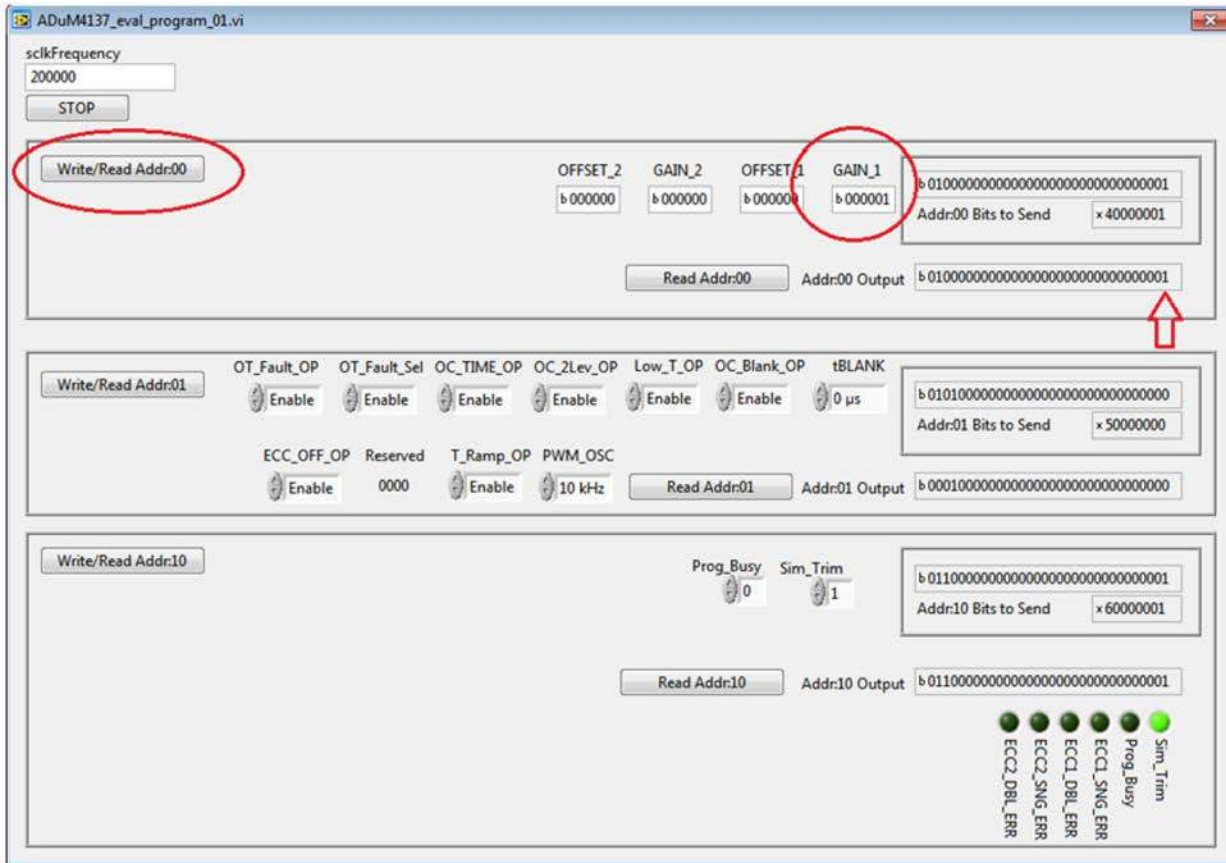

Figure 13. Writing Example Register Edit
3. Click **Write/Read Addr:00**. This command allows the **Addr:00 Output** box to show that the value was written to the register. At this time, the GAIN_1 EEPROM register is not yet programmed. Note that the **Sim_Trim** box value still reads 1 (see Figure 13).